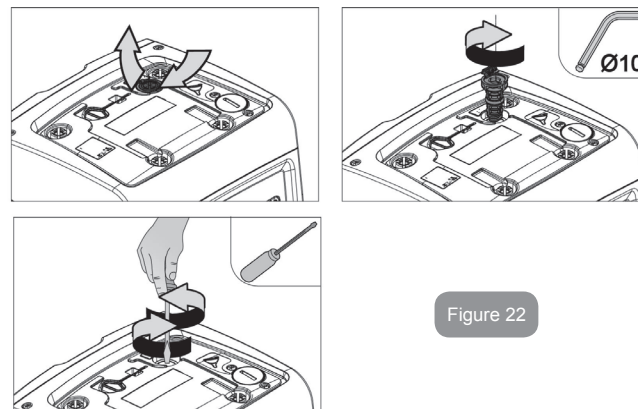

Figure 22
2. lift the rubber cover of the motor shaft access cap (fig. 22);
3. using a 10mm hexagonal key, remove the motor shaft access cap (fig. 22);
4. insert a straight tip screwdriver in the groove on the motor shaft and manoeuvre, turning in 2 directions (fig. 22);